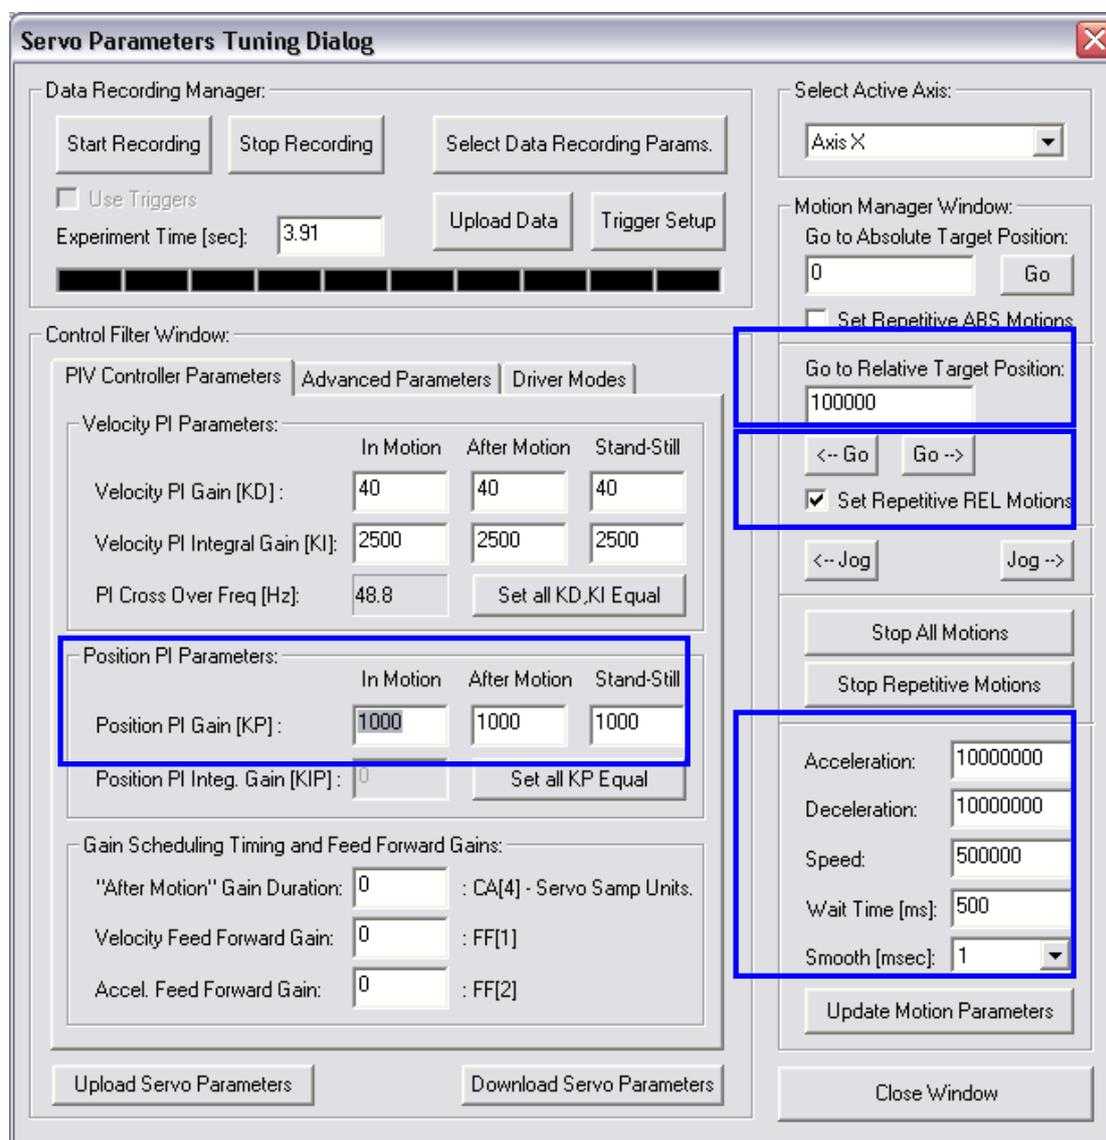

Figure 14: Defining Servo Parameters for AB1A Driver
10. Click the “PIV Controller Parameters” tab (Figure 14) and type:
13. Set the Acceleration, Deceleration, Speed to the desired values, for instance as shown in Figure 14.